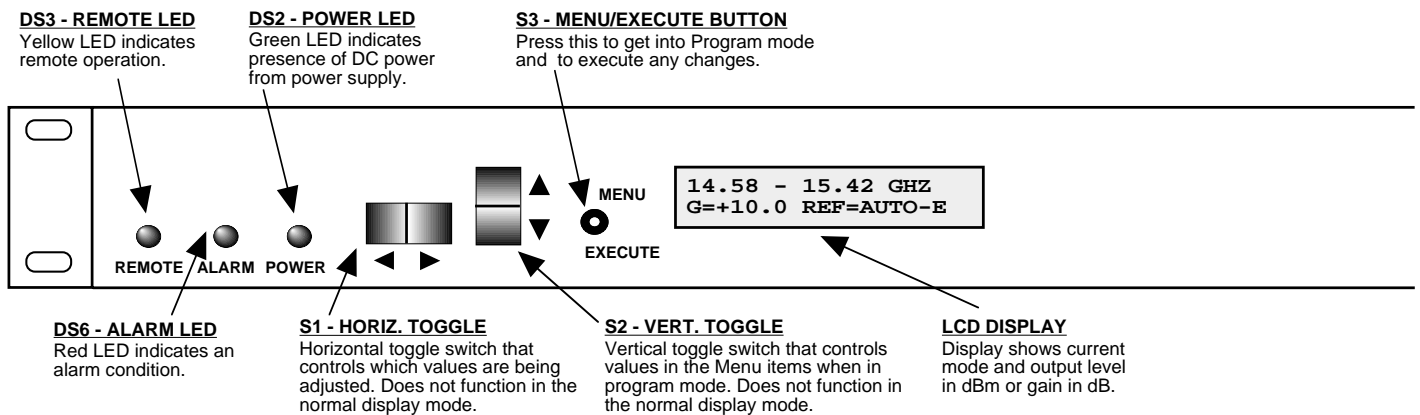

FIGURE 2.2 3115-145-1600 Front Panel Controls and Indicators
Figure 2.2 shows the front panel controls and indicators.
5. Be sure DS2 (green, DC Power) is on and DS6 (red, Alarm) is off (Figure 2.2).
Alarm indications appear on the LEDs (see Figure 2.2).